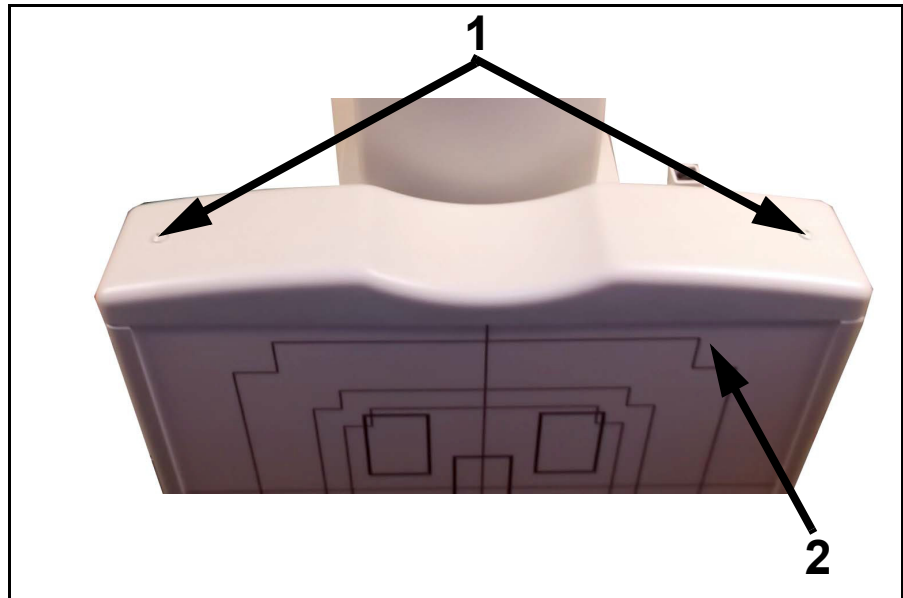

Figure 6-21. Top Cover Screws
- 4 Unscrew the two top cover screws (1 in Figure 6-21) and remove the top cover (2).